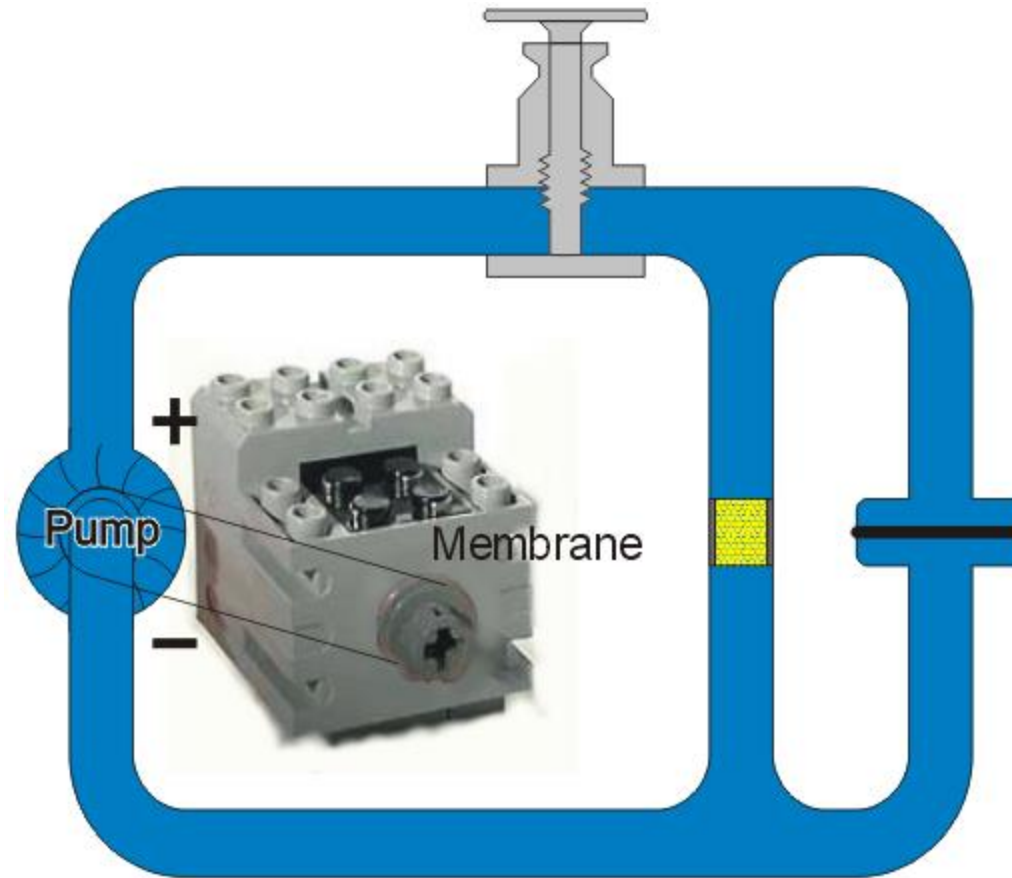

Fig 10: The flow ceasing once the membrane returns to its neutral state.
- Once the membrane has returned to its natural position, the circulation ceases as is shown in **Fig.10**